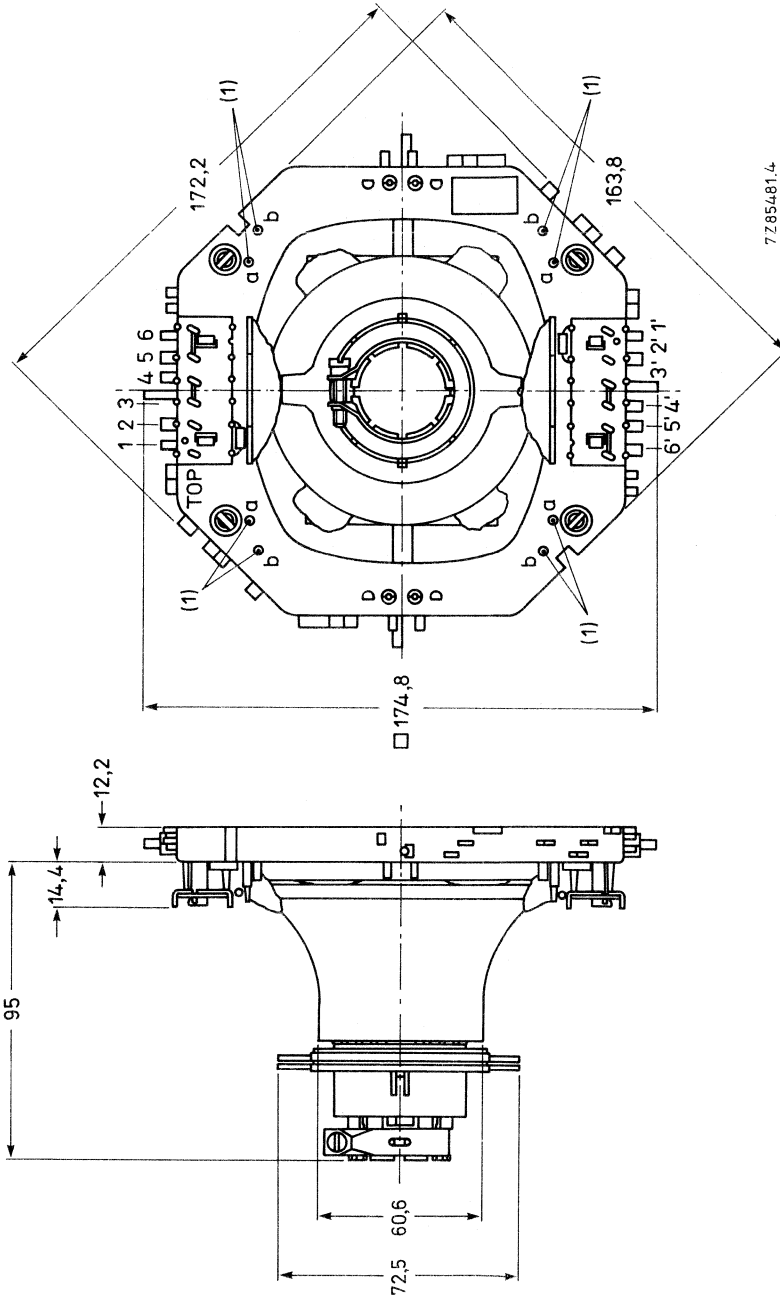
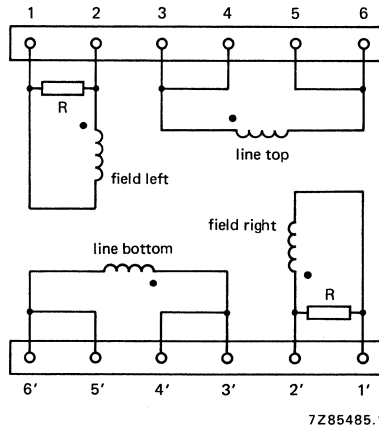

Fig.1 Deflection unit AT1039/03.
Fig. 2 Diagram of line and field coils; R = 270 Ω .
If a further improvement of raster geometry is required use can be made of correction magnets*, which must be fitted to mounting posts (1). The unit has solder pins for connection. The pin numbering in Fig.1 corresponds to that in Fig.2.